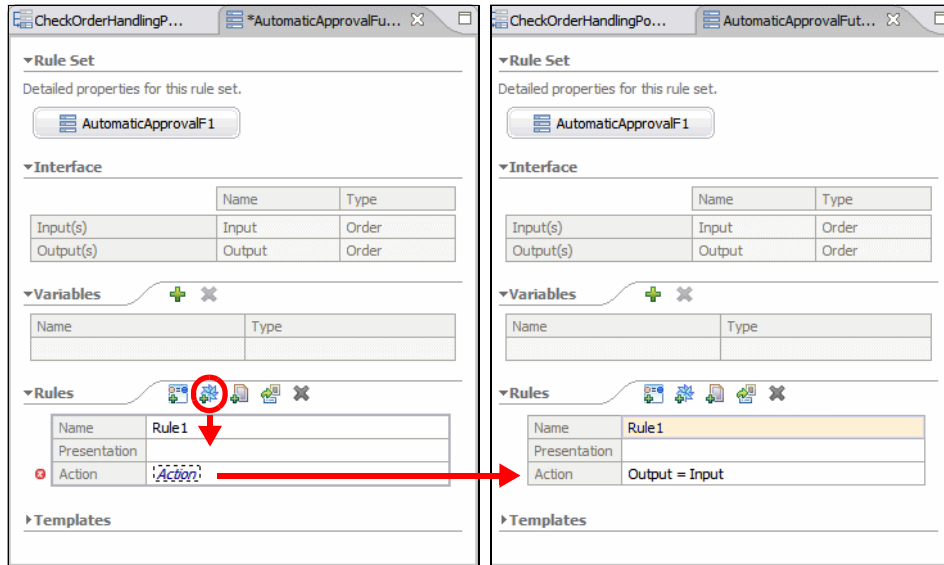

Figure 10-23 Defining business rules
- ▶ In the new rule, click *Action*, then select *Output*, =, *Input* (Figure 10-23). Press **Ctrl+Space** to use content assist.